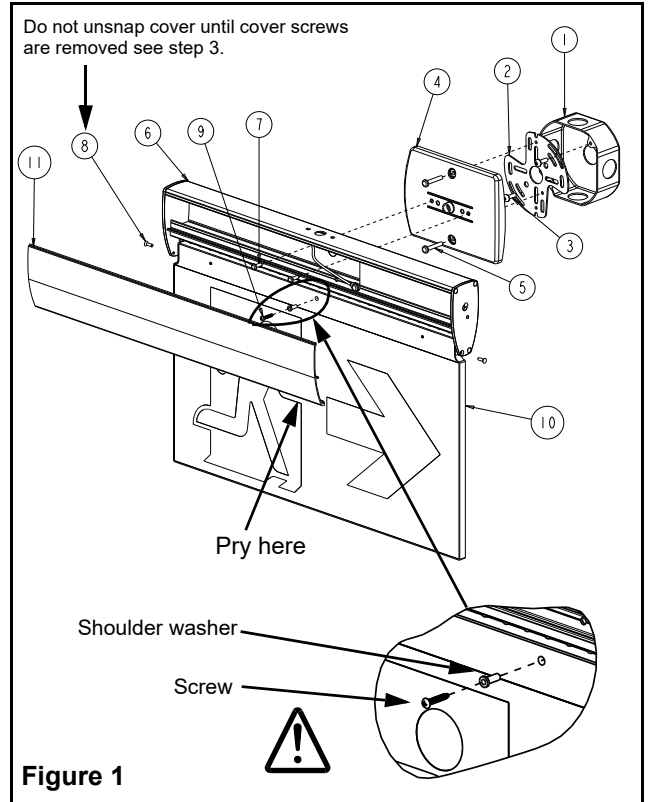

Figure 1
3. Remove the 2 bottom screws (8) from the cover front and set aside to reinstall later. (See Figure 1)
4. Manually unsnap cover (11) by lifting the bottom of the cover and remove. Note: if the cover is too difficult to lift, use a flat head screw-driver to gently pry the cover at the point indicated in Figure 1.
### Wall Mount (See Figure 1)
**WARNING:** Screw and shoulder washer (item 9 in Figures 1 & 2) must be installed to secure panel and prevent slippage during installation and maintenance. Front cover (11) must be secured using screws (8) (see step 10) except during installation or maintenance.